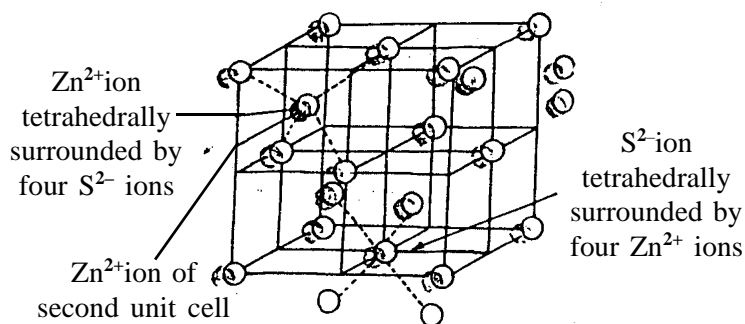

Fig. 1.16 Representation of zinc blend (ZnS) structure.
- In this structure, each Na^+ ion is surrounded by 6 Cl^- ions which are disposed towards the corners of a regular octahedron. (Fig 1.16). Similarly each Cl^- ion is surrounded by six Na^+ ions. Thus the co-ordination numbers of Na^+ and Cl^- in NaCl structure are 6 and 6.